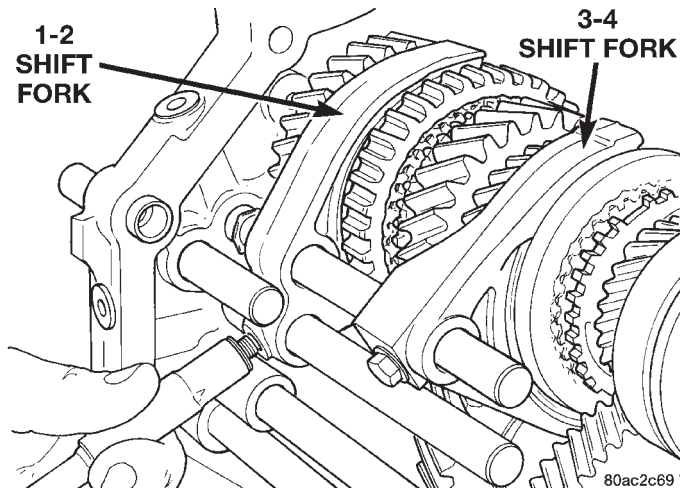

Fig. 87 Install Shift Fork Bolts
(21) Install mainshaft into the intermediate plate by guiding the output shaft through opening in intermediate plate until the shift forks are aligned with the appropriate synchronizer sleeves. The mainshaft rear bearing will be started in the intermediate plate but not fully driven in at this point.
(22) While an assistant supports the mainshaft, align rear of countershaft with inner race of countershaft rear bearing.
(23) Raise countershaft upward until gears mesh with the mating gears on the mainshaft.
(24) Using a suitable rubber mallet, tap on the input shaft and the front of the countershaft equally to install the mainshaft rear bearing into the intermediate plate and the rear of the countershaft into the rear countershaft bearing. It may be necessary to occasionally hold the countershaft into the intermediate plate and tap the countershaft rear bearing onto the countershaft and into the intermediate plate.
(25) Install snap-rings onto the rear mainshaft and countershaft bearings.
(26) Install the bolts to hold the reverse shift arm bracket to the intermediate plate.
(27) Install new bolts to hold the shift forks to the shift rails (Fig. 87).
(28) Position the mainshaft rear bearing retainer over the output shaft and onto the intermediate plate.
(29) Install new bolts to hold the bearing retainer to the intermediate plate.